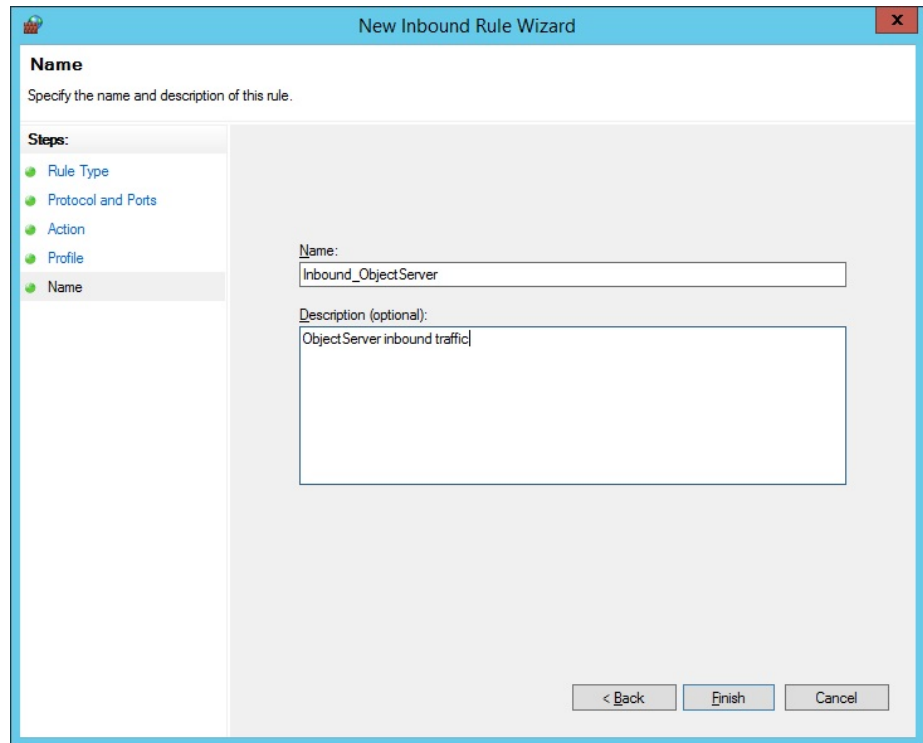

Figure 2-85. Name the Rule
13. On the Name page of the New Inbound Rule Wizard, specify a **Name** for the rule, and optionally enter a description. Then click **Finish**. This is similar to Figure 2-85.